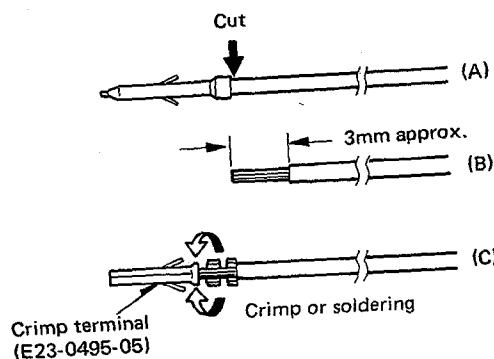

Fig. 4
3. Cut the terminals from the leads (Fig. 4 (A)).
4. Strip the leads for 3mm (1/8") (Fig. 4 (B)).
5. Crimp the two crimp terminals provided with the KSP-1A using the hand crimping tool. If a hand crimping tool is not available, soldering is acceptable (Fig. 4 (C)).